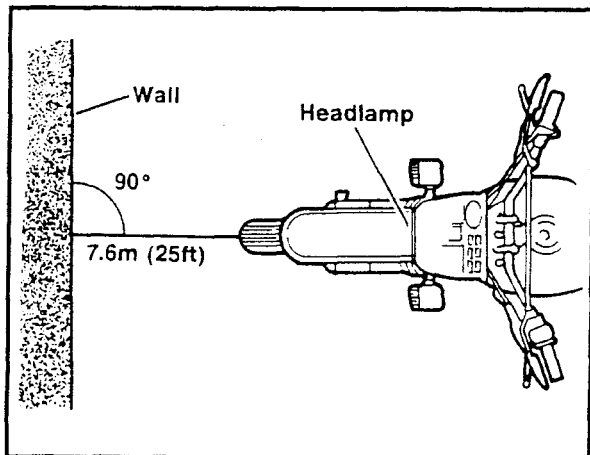

Figure 4-24. Adjust Headlamp Beam
1. See Figure 4-24. Position the vehicle on a flat surface pointing directly at a wall at a distance of 7.6 m (25 ft.).